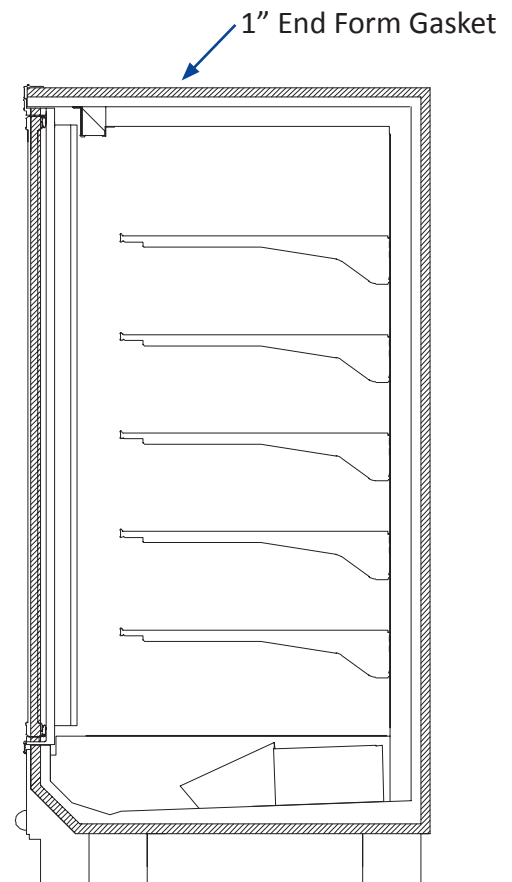

Fig 3. Gaskets Location
- Apply the 1 inch gasket around the perimeter of the case as shown Fig. 3. It must be at the edge. Check to be sure that there are no gaps between gasket and case.